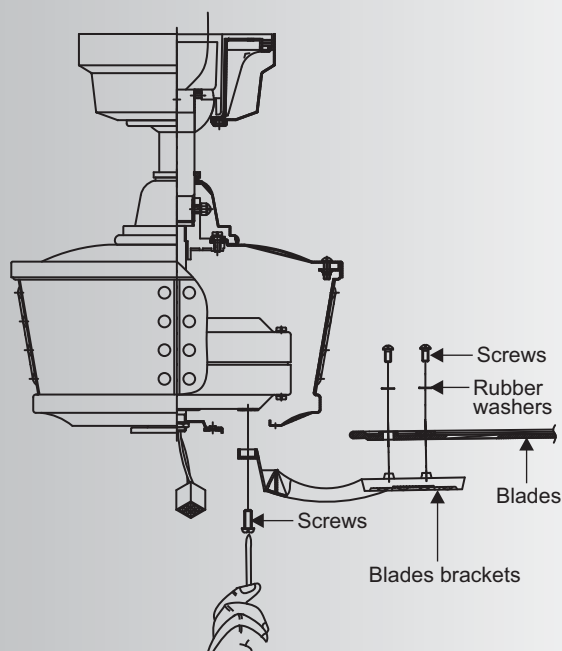

Fig. 14
Step 1. Attach a blade to a blade bracket using the screws and rubber washers provided. (Fig.14)
Step 2. Attach each blade assembly to the motor using the "Pre-Installed" mounting screws in the blade bracket. (Fig 14)